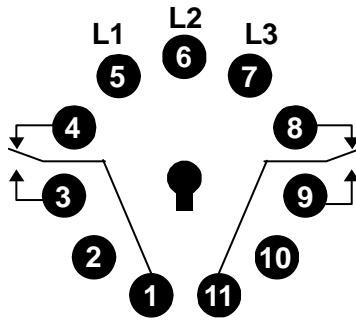
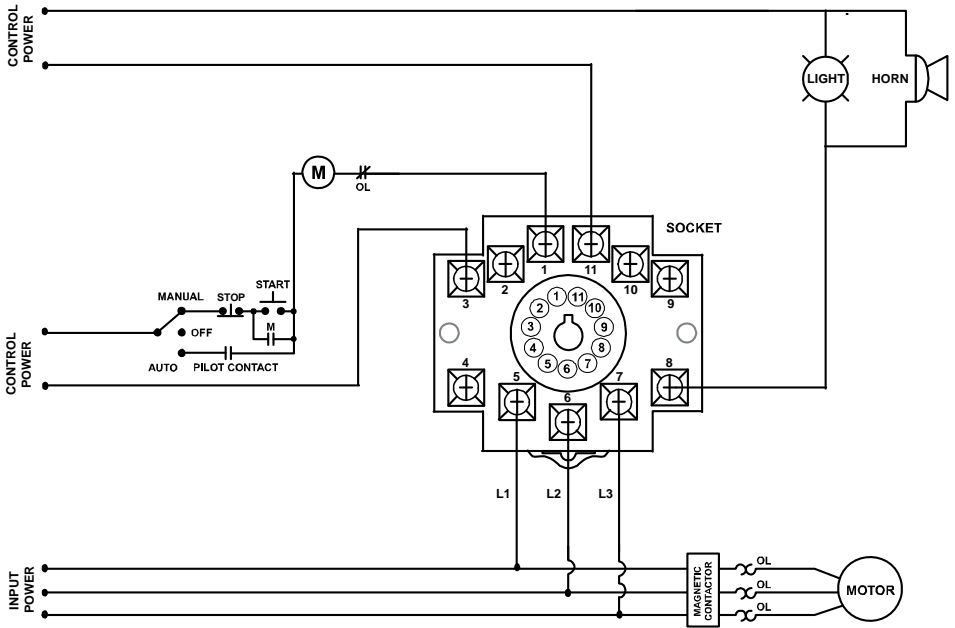

Figure 1: Pin-Out Diagram
Figure 2: Typical Motor and Alarm Control Wiring Diagram
3. Connect L1, L2 and L3 (terminals 5, 6 & 7 on the relay socket) to the LINE SIDE of the motor starter (Figure 2).
4. Connect the output relays to the circuitry to be controlled. See Figure 1 for pin diagram. The output relays are isolated, so different control voltages may be applied to each one. For motor control, connect a normally open contact in series with the magnetic coil of the motor starter as shown in Figure 2. For alarm operation, connect a normally closed contact in series with the control circuit as shown in Figure 2.